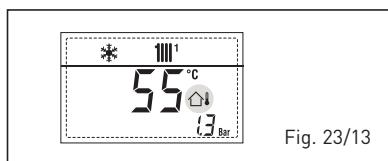

Fig. 23/13
– **SAFETY THERMOSTAT INTERVENTION FIRST MIXED ZONE “ALL 20” (fig. 23/14)**